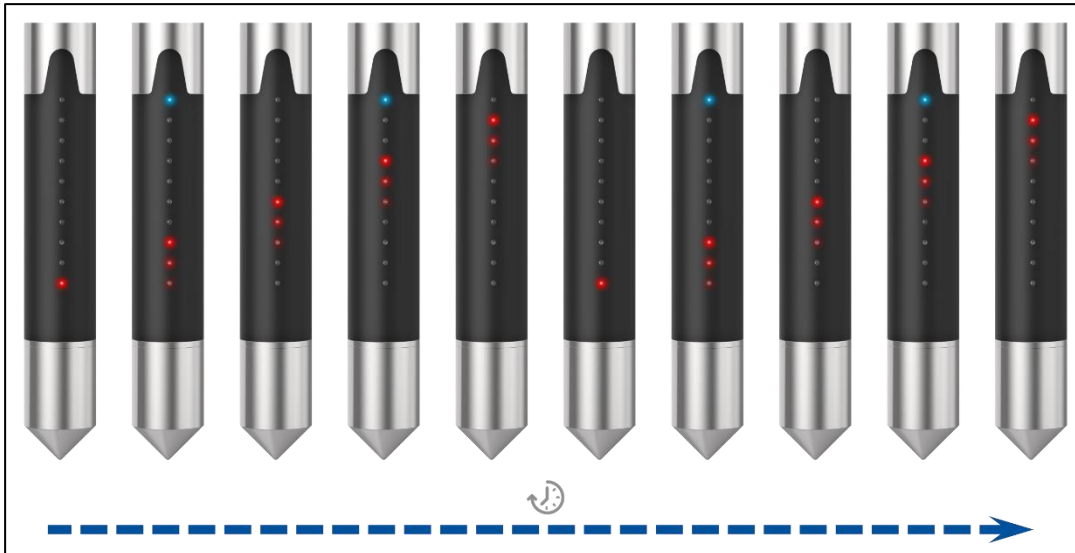

Figure 4 The red LED's runs from no. 1-9 (running light) and the blue LED flashes.
5. The LEAKPEN starts directly in bootloader mode (Figure 4 and see chapter 4.4 Bootloader mode)